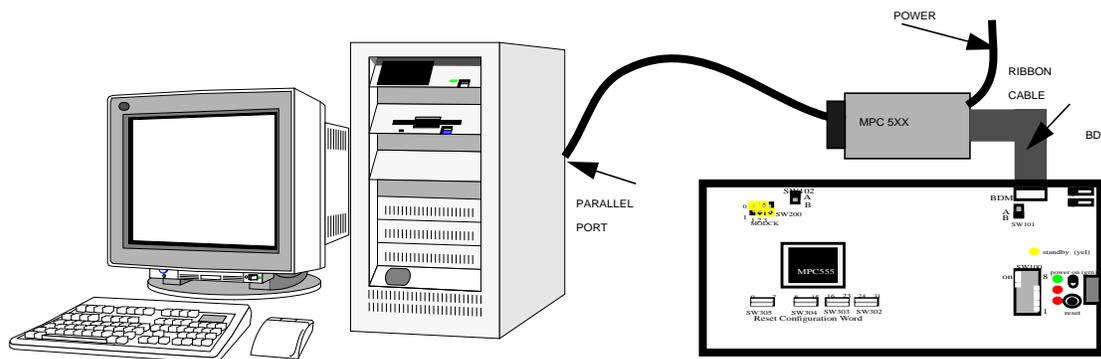

Figure 2. BDM Interface Connection
Refer to Figure 1 and Figure 2 when following these steps:
3. Attach the ribbon cable at the opposite end of the interface to the evaluation board using the 10-pin, 2-row header (Berg BDM connector) in the top right corner of the board (see Figure 1 and Figure 2).